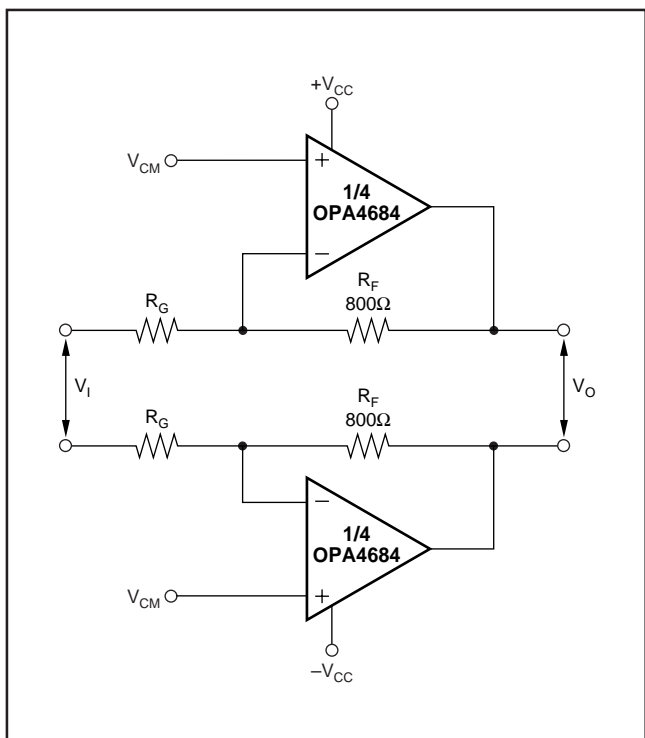

FIGURE 6. Inverting Differential I/O Amplifier.
Figure 6 shows a differential I/O stage configured as an inverting amplifier. In this case, the gain resistors (RG) become the input resistance for the source. This provides a better noise performance than the noninverting configuration, but does limit the flexibility in setting the input impedance separately from the gain.